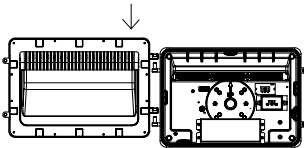

Figure 7
7. Follow special functions instructions (see installatin instructions) for CCT, wattage adjustments. Mount the cover of the fixture. (Figure 7)